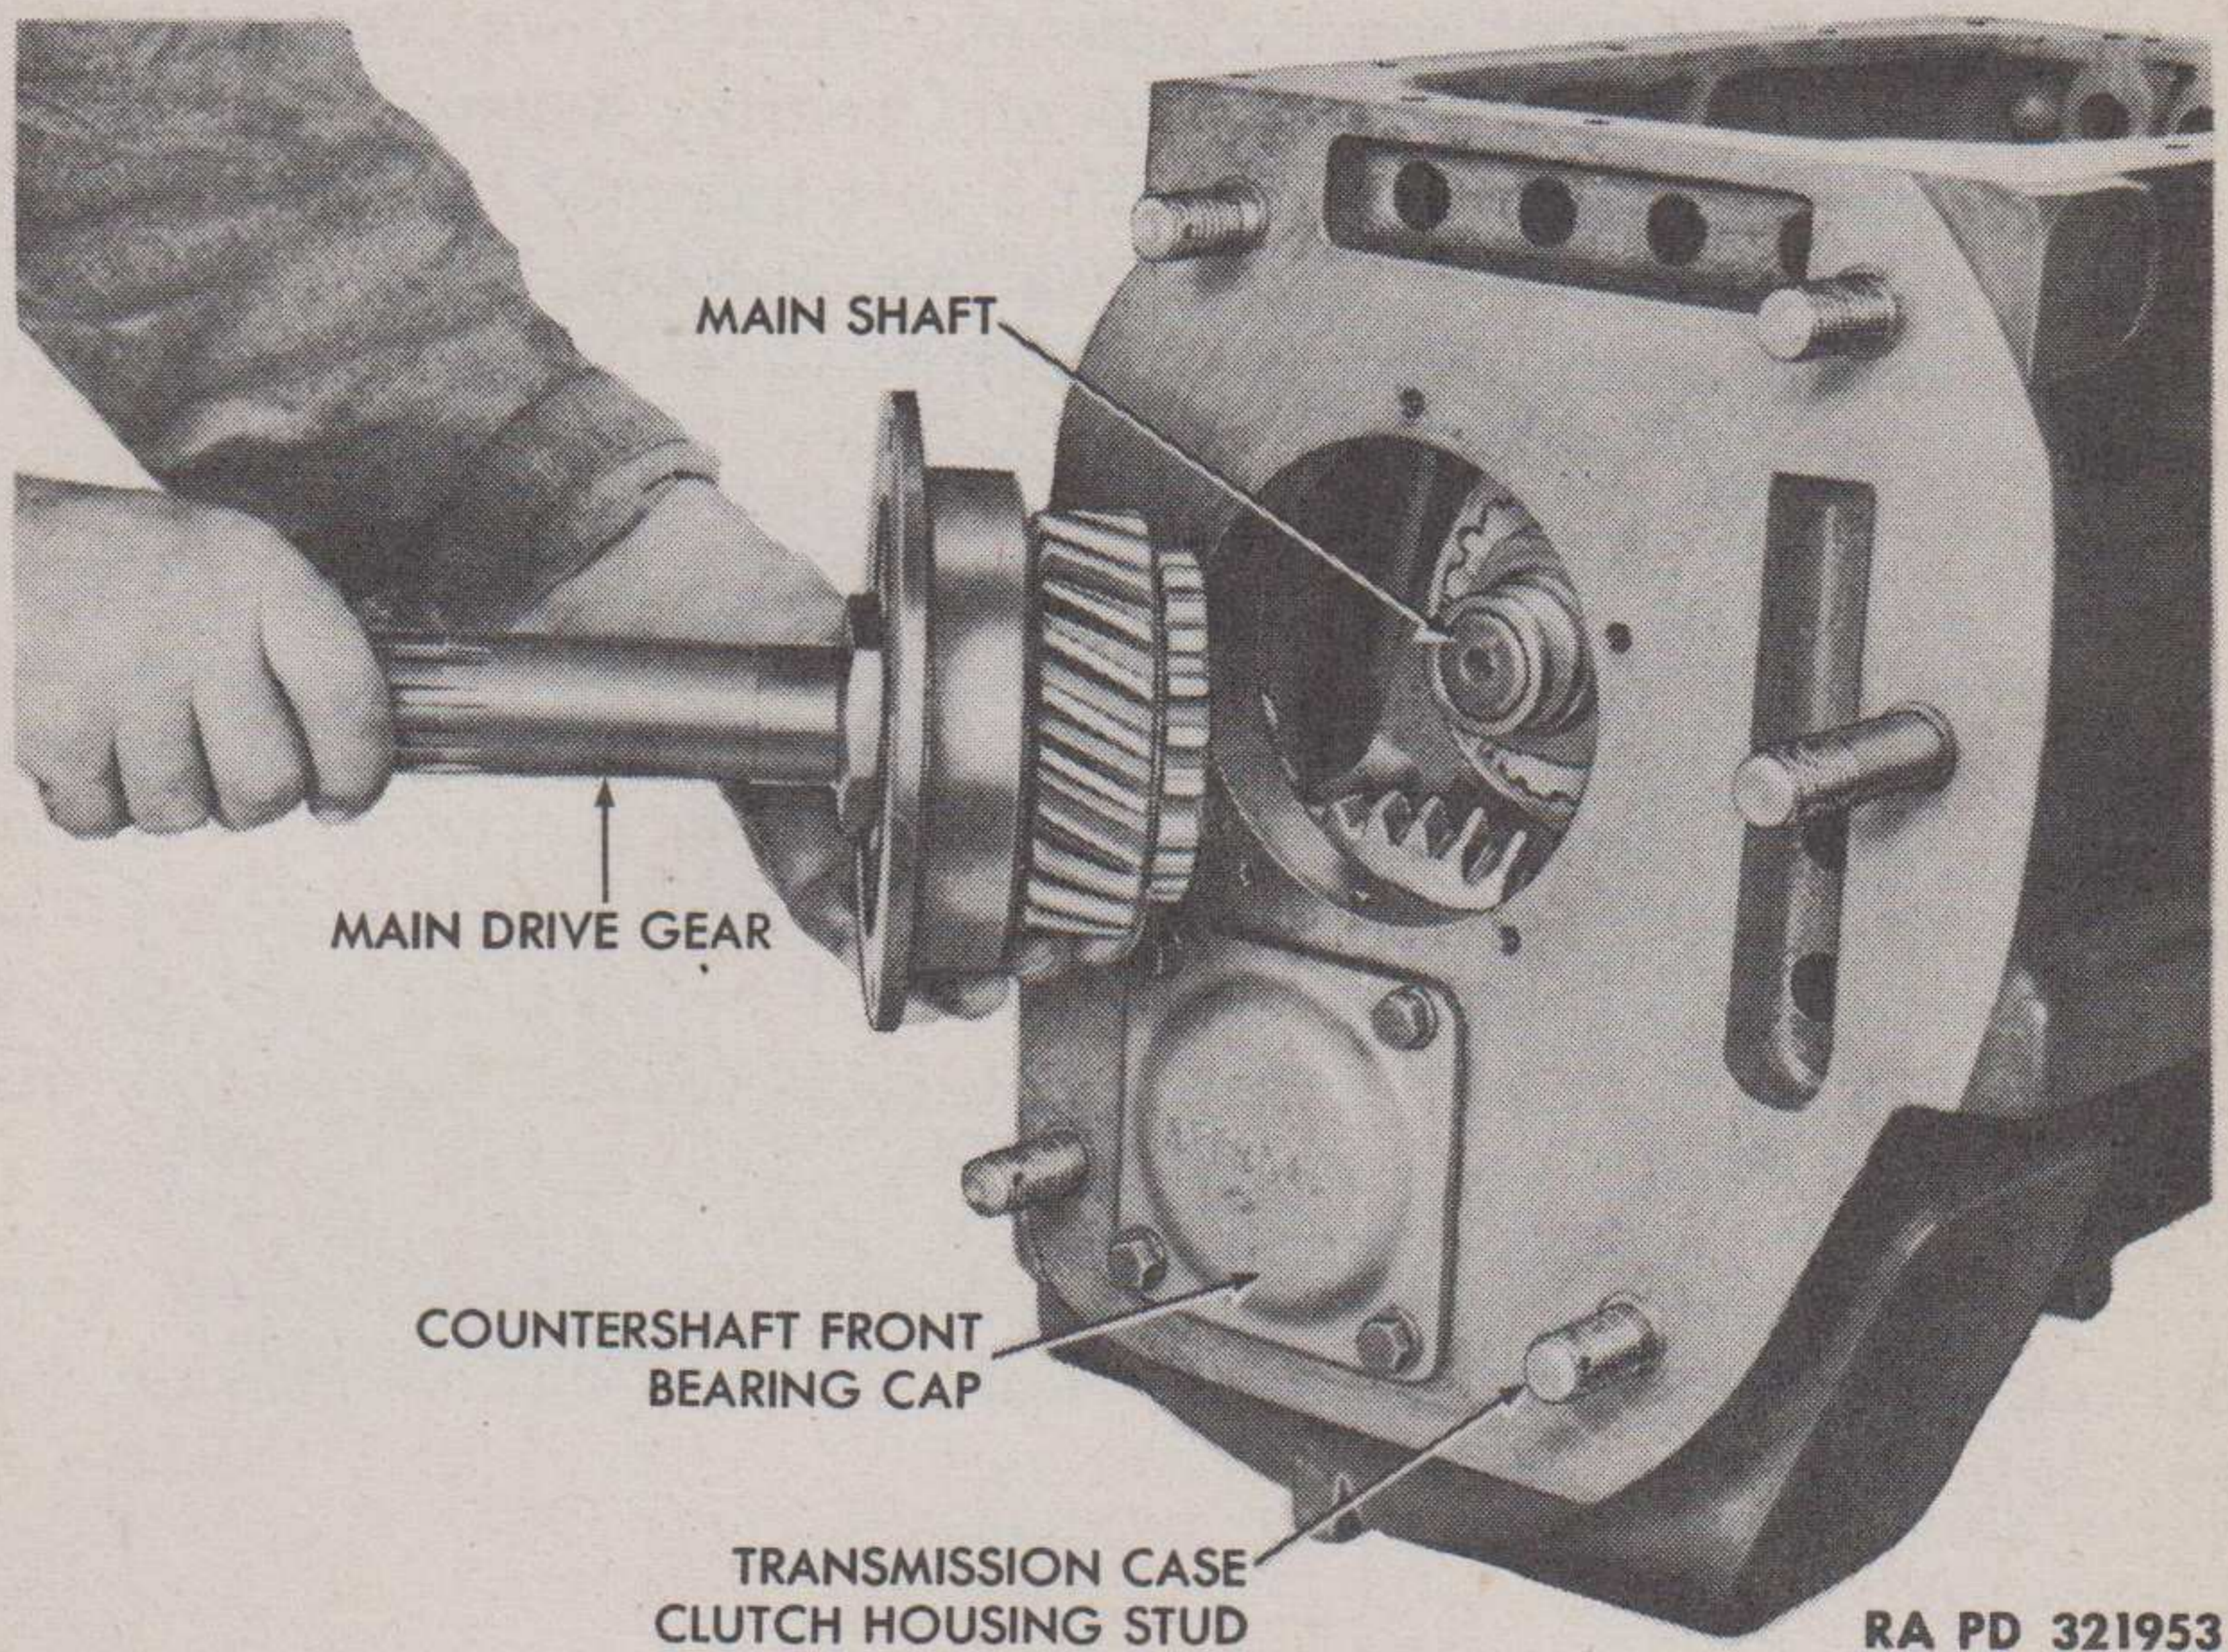

Figure 10 — Removing Main Drive Gear
f. Remove Main Drive Gear Assembly (fig. 10). Remove cap screws and lock washers attaching main drive gear bearing cap to case. Lift off bearing cap and gasket. Tap on main drive gear to free assembly from case. Lift off main drive gear assembly.